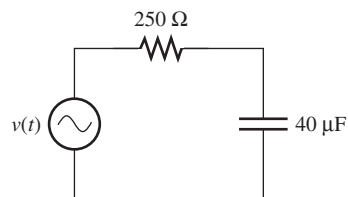

FIGURE P6.33 Circuit for Problem 6.33.
6.33 (B)* Find the steady-state expression of current for the circuit in Figure P6.33 if the voltage source is $v(t) = 10 \cos(200t + 30^\circ)$.